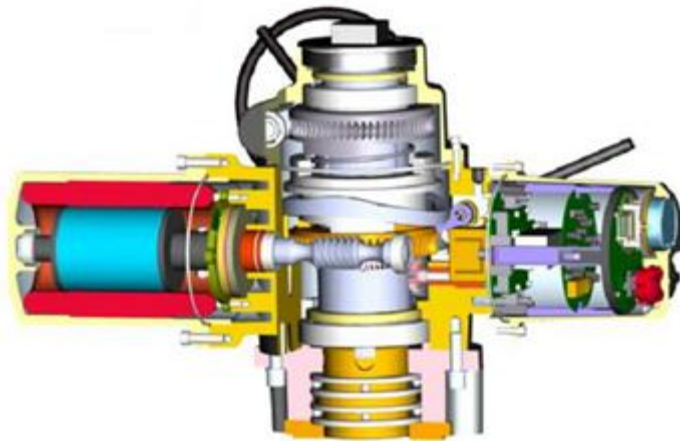

Figure7: CKD multi-turn actuators partial view and structure features
■Removal of driving sleeve (See Figure 7)
Fig. 7 removing method of driving sleeve